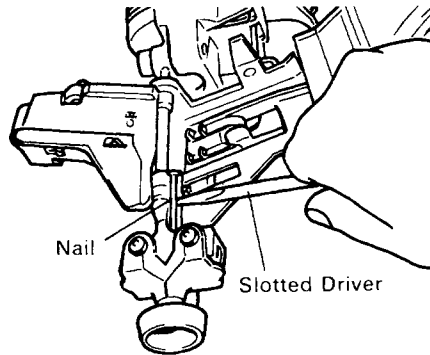

Fig. 20
- (2) Remove the jammed nail with a slotted screwdriver. (Fig. 20)
- (3) Cut the deformed collated wire with cutting nippers, correct the deformation, then load the nails in the magazine.
- (4) In case of frequent jam, consult the Authorized Service Agent form which you bought this Nailer.